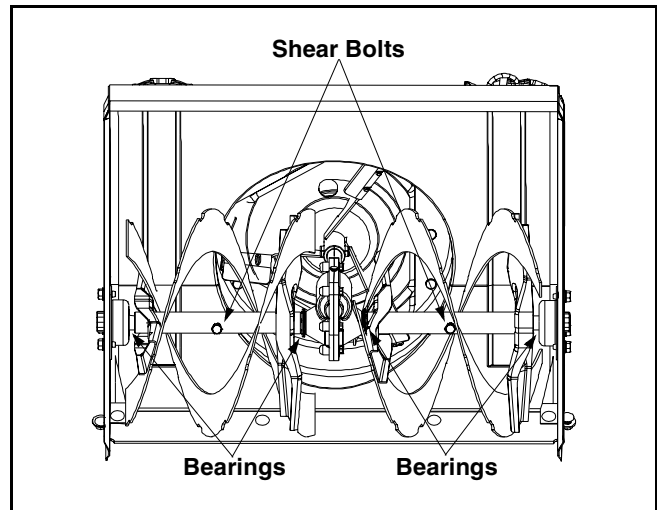

Figure 11
- At least once a season, remove shear bolts on auger shaft. Oil or spray lubricant inside shaft. Also lubricate the auger bearings at least once a season. See Figure 11.